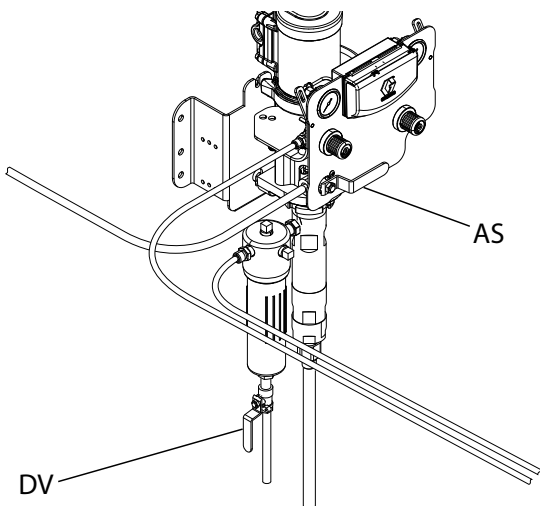

FIG. 8. Supply Pump Fluid and Air Shutoff Valves
2. Shut off fluid supply pumps for all colors, catalysts, and solvent by turning off the air supply valve (AS) and bleeding off the fluid supply drain valve (DV) from all of the supply pumps. FIG. 8 is shown as an example but your specific supply pump arrangement may vary.